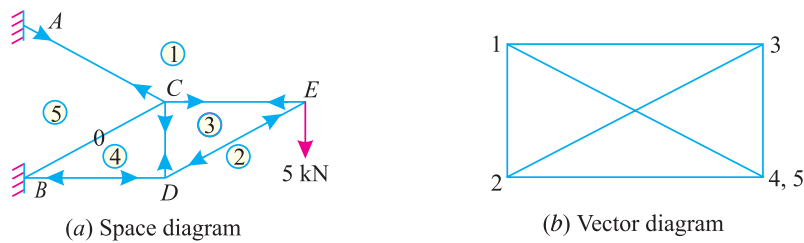

Fig. 14.28.
**Solution.** First of all, draw the space diagram and name all the various members according to Bow's notations as shown in Fig. 14.28 (a).
Now draw the vector diagram as shown in Fig. 14.28 (b), starting from the joint E. Measuring the various sides of the vector diagram, the results are tabulated here :